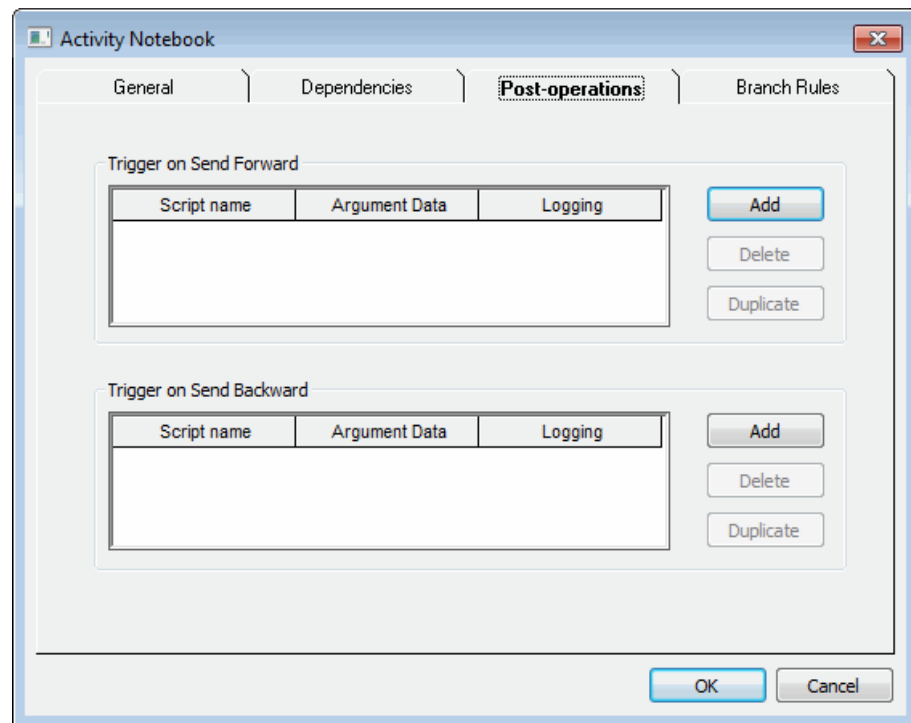

Figure 2-26: Activity Notebook, Post-operations tab
3. Select the **Post-operations** tab as shown in Figure 2-26.